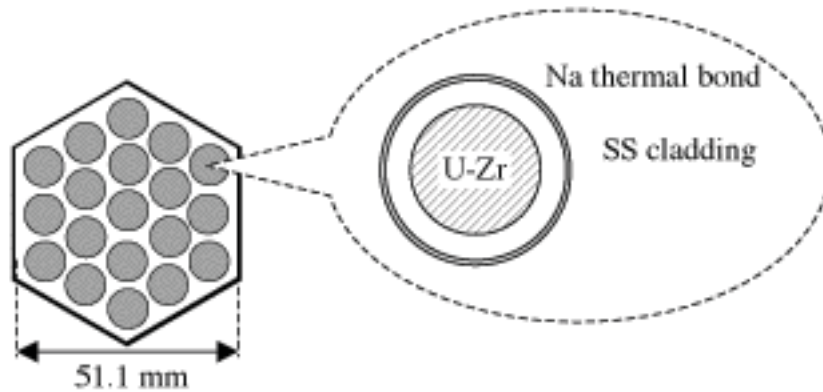

Figure 1. Cross Sectional View of the Fuel Assembly.
An innovative fast reactor concept uses molten lead as the coolant with the small hexagonal fuel-assembly design shown in Figure 1. The geometry and operating conditions of the fuel assembly are described in Table 1. Each fuel pin consists of a cylindrical slug made of U-Zr with a stainless steel cladding. Since U-Zr swells significantly under irradiation, a relatively large gap must be provided for between the fuel slug and the cladding (Figure 1). The gap is filled with a “thermal bond” to prevent excessive temperatures in the fuel, when the reactor is at power. The thermal bond material is molten sodium. Useful properties for all materials in the fuel assembly are reported in Table 2 at the end of the problem statement.
Fuel assembly inner width	51.1 (see Figure 1)
- Wire wrapping is often used for fuel pin spacing in liquid-metal-cooled fast reactors. If this approach were used for the fuel assembly in Figure 1, would the coolant velocity, bulk temperature, heat transfer coefficient and pressure drop increase, decrease or remain the same? Why? (Assume that power, mass flow rate, inlet temperature and fuel pin geometry remain the same)